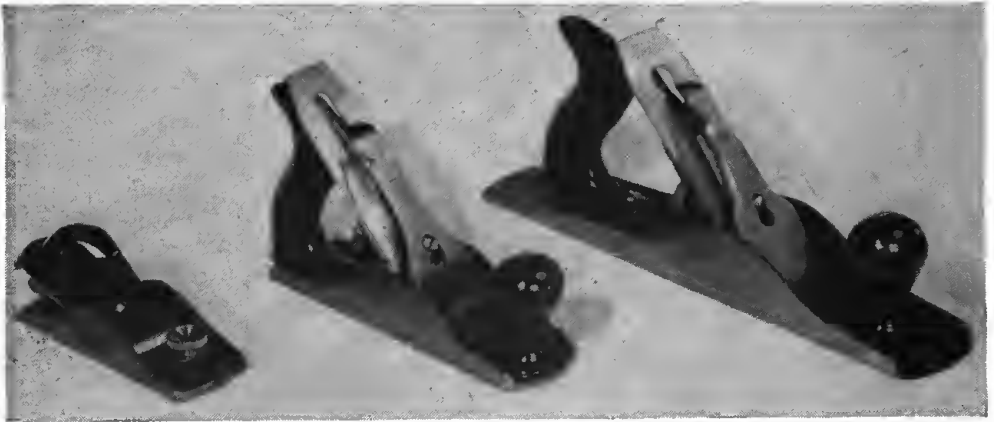

Figure 96. Planes.
f. PLANE. (1) The frame of a plane is usually made of cast iron. Mounted in the frame at an angle to the plane bottom is the blade. The blade is made of hard steel. The plane has an adjusting screw which enables the operator to control the thickness of the cut. The common types of planes are: jointer, jack, smooth, and block. Of these, the jack and block planes are the two most commonly used. (See fig. 96.)